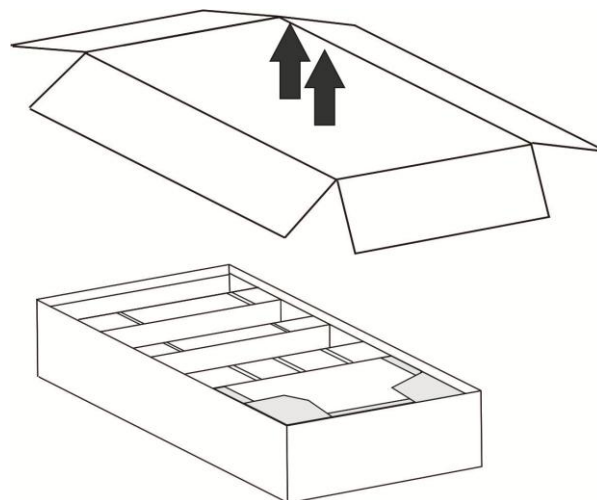

Fig 2.4-2
3. Open the **Carton 2** and remove the upper cardboard piece. (Fig 2.4-2)